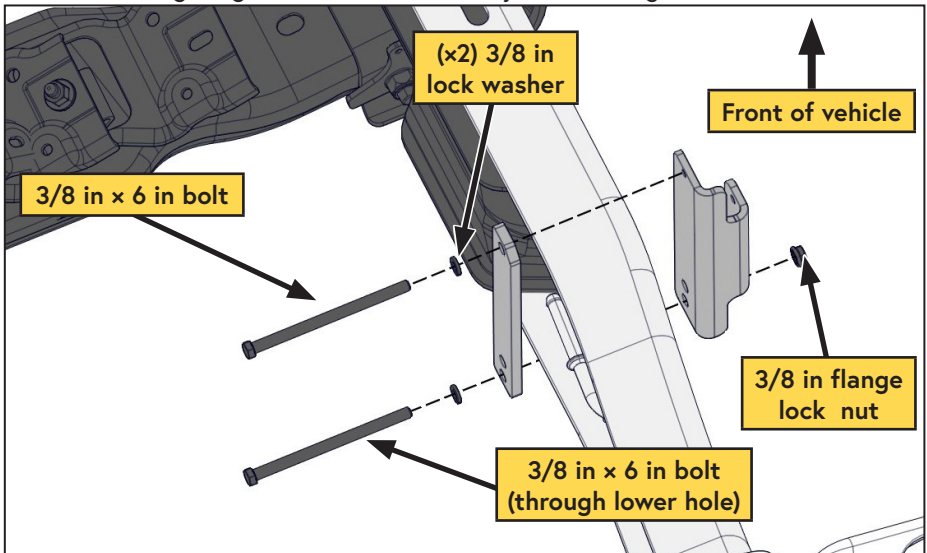

Figure 48 — Installing the AOST
- Using the (x2) 3/8 in × 6 in bolts, install the rear tank mount and backing strap where the frame begins to narrow, behind the transmission cross member. Leave the bolts finger tight to allow for minor adjustments (Figure 48).